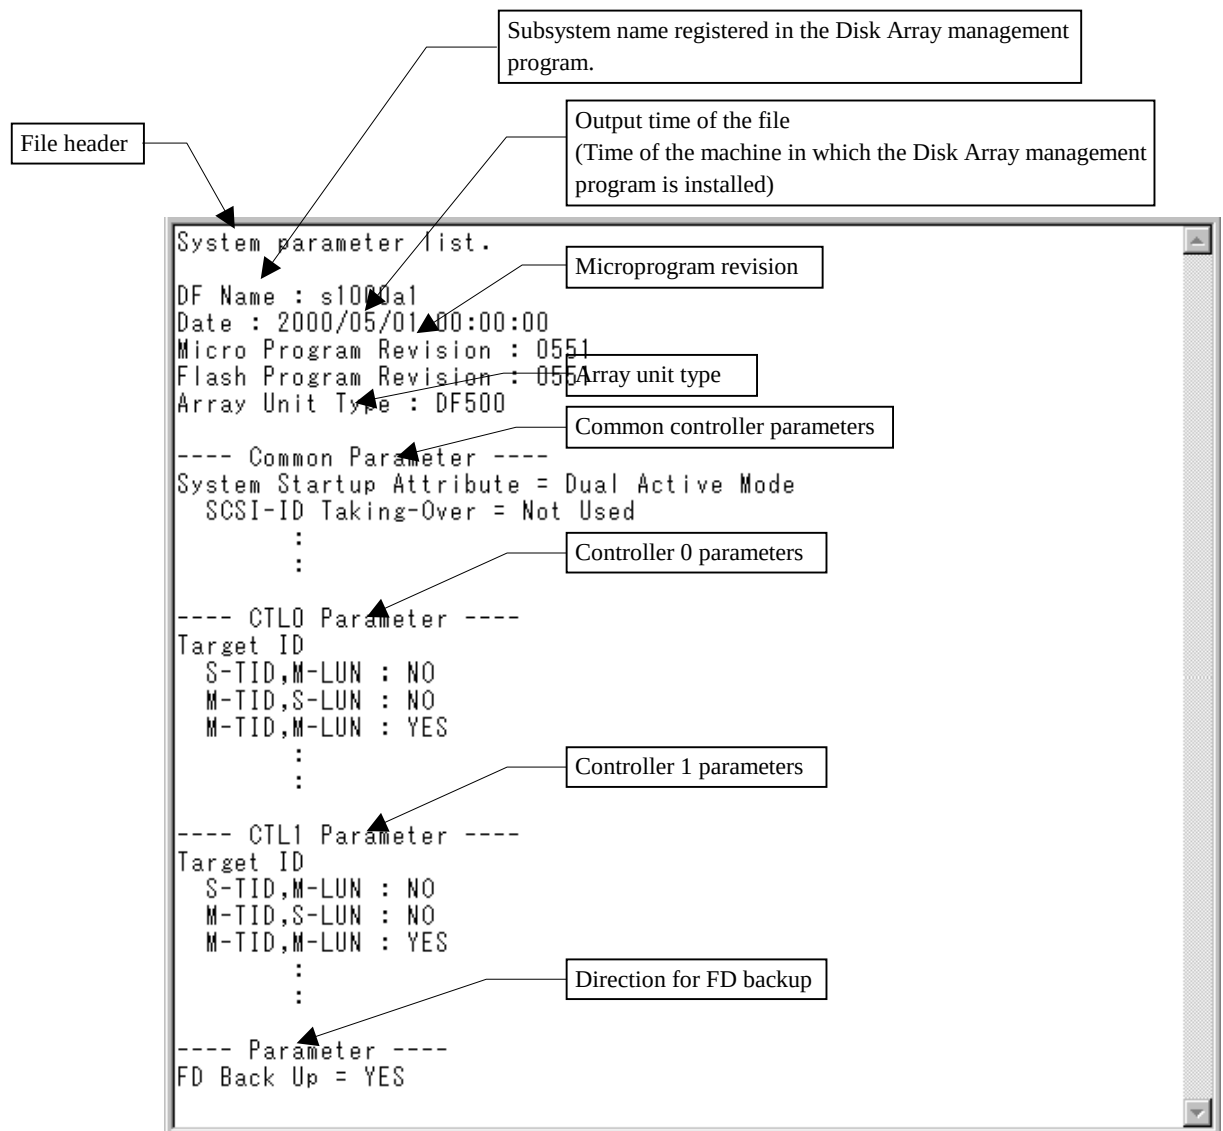

Figure 2.6.1 Outline of the Format of the System Parameter Output File
Open the file output in (2)-(6)-(i) with an appropriate editor. The format of the file consists of the following items. Outline of the file structure is shown in Figure 2.6.1.